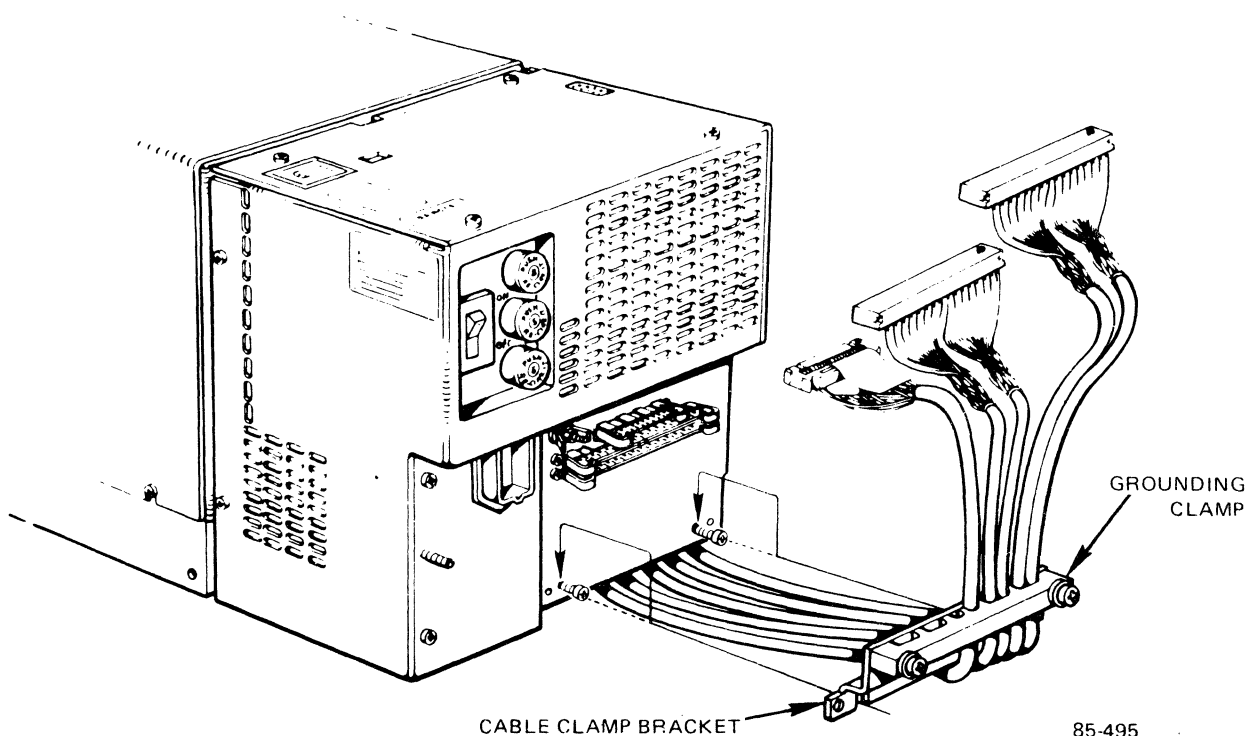

Figure 2-17. Cable Clamp Bracket Installation
9. Loosen the two screws and washers installed in the rear of the disk drive, and insert the cutouts in the cable clamp bracket between the screws and the drive as shown in Figure 2-17. Tighten the screws.